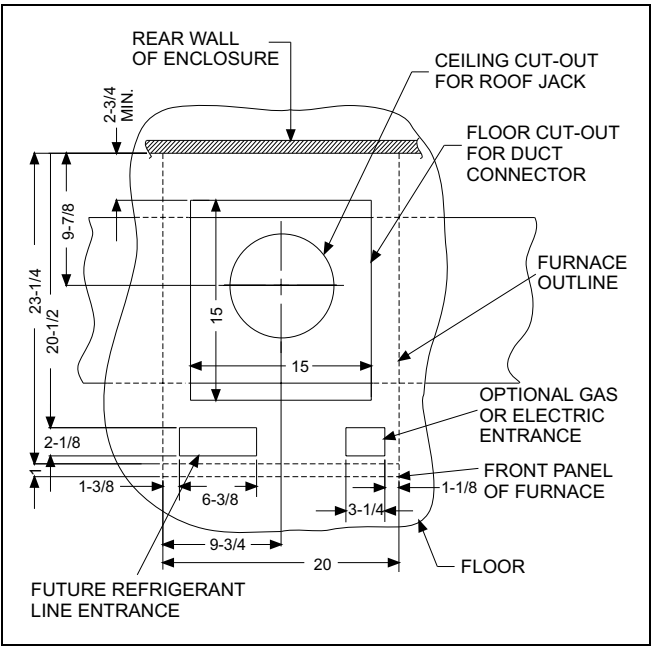

FIGURE 9 : Recommended Floor Cut-out
To facilitate the proper installation of the roof jack, it is very important that the roof jack opening in the ceiling and roof be on the same vertical center line as the furnace flue collar. See Figure 9.
1. Make floor cut out as shown in Figure 9.